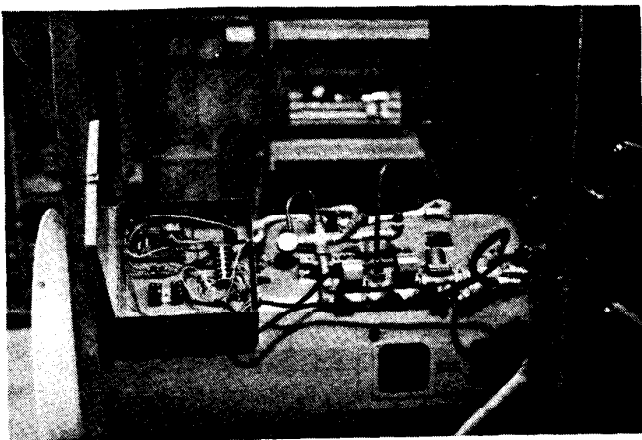

FIG. 19 FAN HEATER
CLEARANCE HOLES - When reassembling parts, the capscrews must be installed through the **UNTAPPED CLEARANCE HOLES**, as shown in Fig. 19 to cause the propellor to be pulled forward onto the tapered bushing, thus locking the parts securely onto the motor shaft. Refer to text for assembly details.
4. Block propellor to prevent it from turning, and GRADUALLY TURN IN THE CAPSCREWS (up to 1/4 turn at a time), as shown in Fig. 19, until the propellor breaks loose from the bushing and motor shaft. Carefully remove bushing and propellor. With the propellor free from the bushing, a wheel puller can be used to pull the bushing off of the motor shaft, if required. Reattach bushing onto propellor to prevent the loss of parts.
6. Use an INCH-POUND torque wrench and GRADUALLY TIGHTEN the three capscrews (up to 1/4 turn at a time) until the taper bushing becomes fully seated; under normal conditions, a minimum tightening force of 175-180 in.-lbs. (15 ft. lbs.) will be required to firmly seat the bushing. DO NOT EXCESSIVELY OVERTIGHTEN THE BUSHING. See Fig. 19.